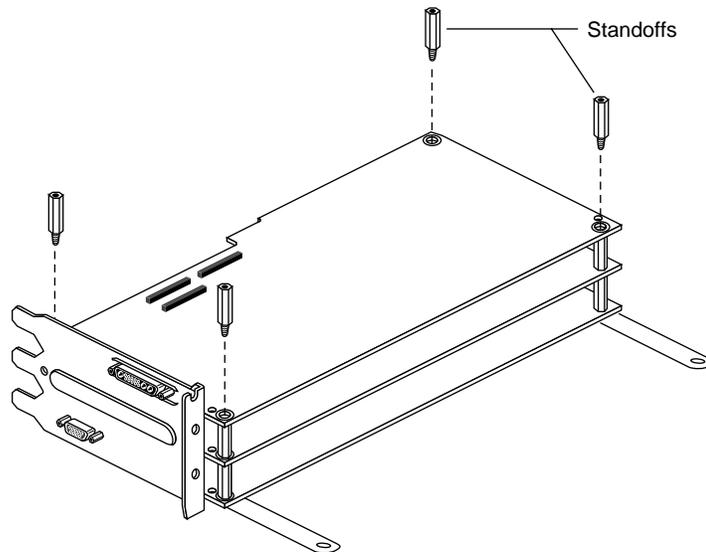

Figure 1-12 Installing the Standoffs
3. Install the four (female/male) standoffs in the same corner screw holes from which you removed the screws. See Figure 1-12.